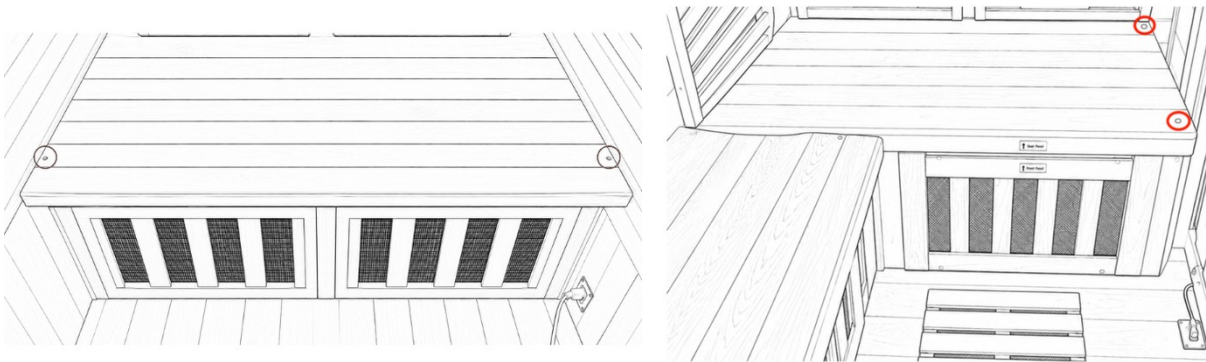

Figure 18. Rear bench seat lowered onto Wall B (left) and side bench seat along Wall A (right).
- Place the rear bench seat against Wall B (Figure 18). The back of the bench is open and sits flush to the wall; lower the front toward you, as if closing a lid, until it rests on the calf heater panel.